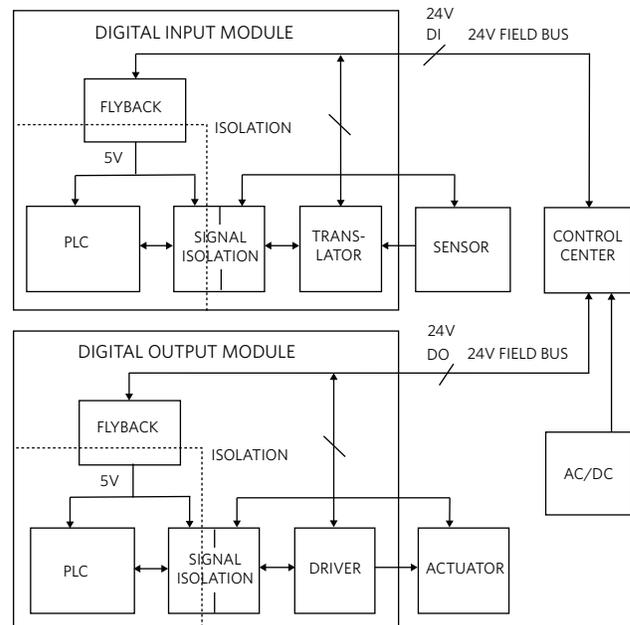

Figure 2. Digital I/O Module Block Diagram
Figure 2 illustrates a typical digital I/O module system block diagram. A central hub (Control Center) takes the AC line power and converts it to 24VDC which is delivered to the I/O modules, along with the corresponding digital input (DI) and digital output (DO) data. The factory environment is rugged — due in part to electric and magnetic interferences and over-voltages. The sensitive electronics of the controller must therefore be protected. Accordingly, each module's programmable logic
controller (PLC) is powered via an isolated step-down voltage regulator (“Flyback” in Figure 2). At the digital input module (DIM) a rugged voltage level translator interface powers the sensor, receives its information, and passes it along to the PLC via a digital isolator or opto-coupler. A similar power, signal and isolation chain on the digital output module (DOM) leads to the on board driver, interfacing to the external actuator. The DIM's input translator and the DOM's output driver are the primary locations where power is transferred, consumed and dissipated as heat. With modules becoming smaller, no longer leaving space for cooling fans, the traditional, inefficient solutions fall short. New, highly efficient solutions are needed.